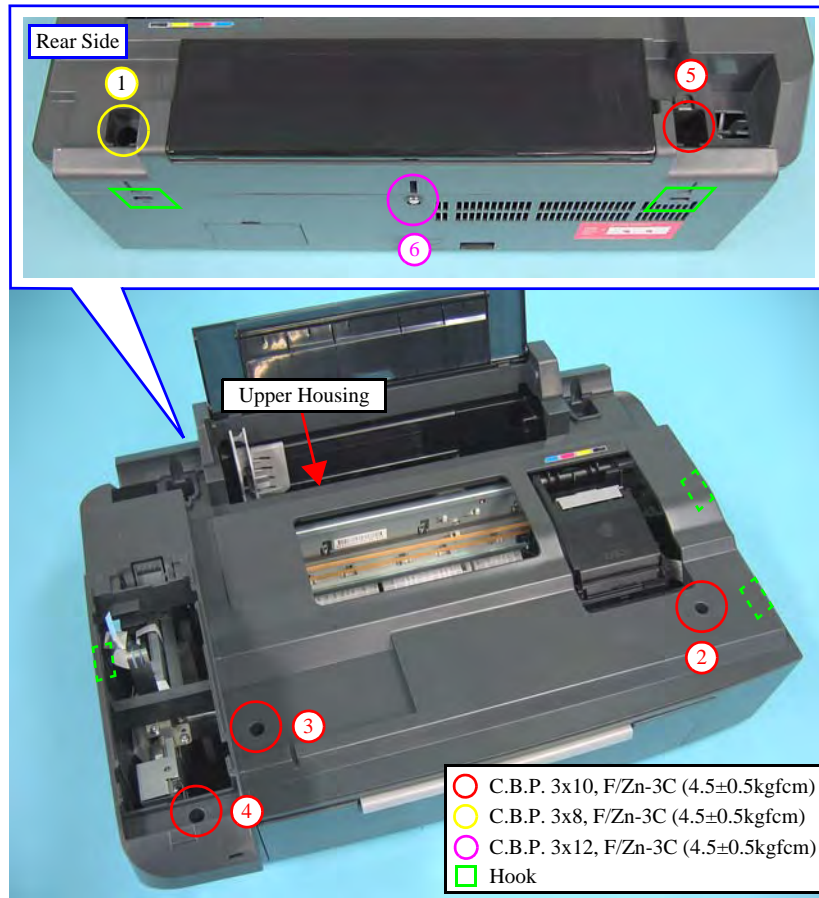

Figure 4-11. Removing the Upper Housing
- Tighten the screws in the order given in Figure 4-11.